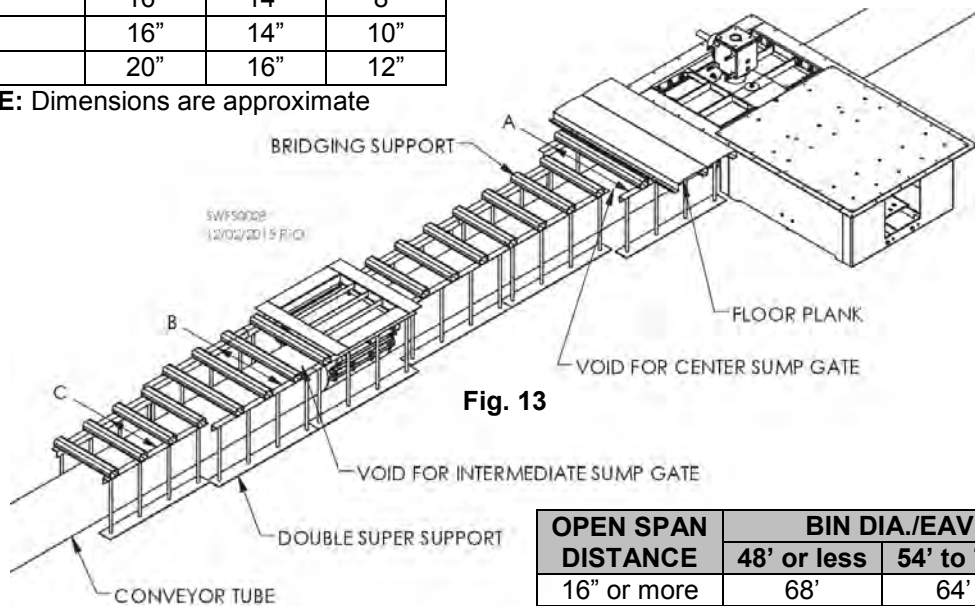

Fig. 13
In addition to floor supports specified in flooring installation instructions, supports such as Sukup Double Super Supports should be placed as close as possible to conveyor tube as shown in Fig. 13 to provide adequate floor support. However, be sure to leave voids for opening of sump gates.
Additionally, if table elsewhere in this manual says floor supports should be placed closer than allowed by diameter of conveyor tube or width of center or intermediate sump gates, then bridging is needed to support floor planks in those areas. See Fig. 13 and table above it.
If using Double Super Supports, place on each side of unsupported area as shown in Fig. 13, making sure to anchor Double Super Support bases to concrete using concrete screws or wedge anchors.
Single-tube bridging is adequate to span distances shown by eave heights in table under Fig. 13; two (2) tubes are required for spans exceeding those distances. Also, two Double Super Supports must be placed on each side of sump and conveyor if using two floor support tubes under each plank. Values are based on 15-7/8" floor supports and assume conveyor is not in a trench.